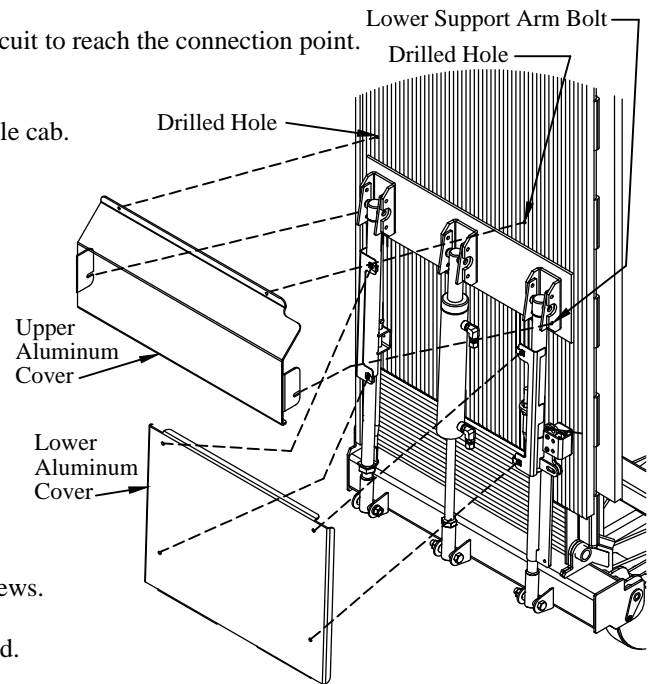
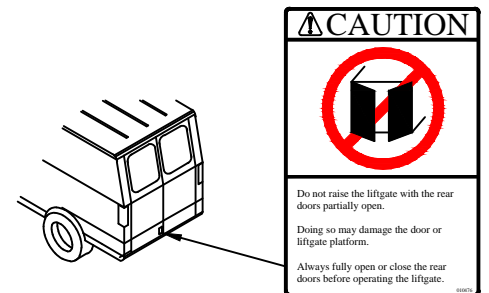

Figure 19: Aluminum cover installation.
Figure 20: Caution decal location.
7. **Install** the upper aluminum cover on the lower 5/16" support arm bolts. 5/16" flat washers should have been installed previously (Figure 19).
8. **Drill** two (2) 13/64" holes in the platform, using the holes in the aluminum cover as a guide.
9. **Install** two (2) 1/4-20 self-tapping screws in the drilled holes.
10. **Install** the lower aluminum cover using four (4) 1/4-20 self-tapping screws.
12. **Secure** the limit switch wire to the support arm and limit switch bracket using two (2) plastic zip ties. This should be done with the platform unfolded.
13. **Adhere** decal (PN 10476) to the exterior bottom right corner of the driver side rear door (Figure 20).